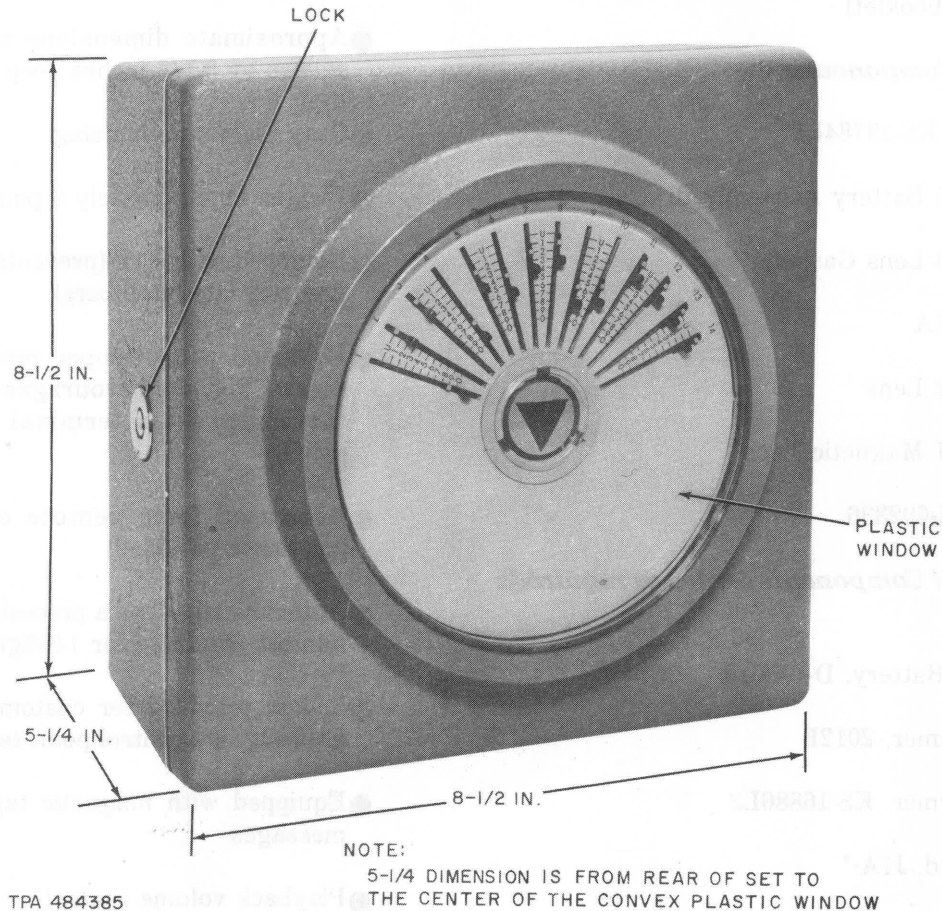

Fig. 1—1A Telephone Reporting Set
1.01 The 1A telephone reporting set (Fig. 1) is an instrument which is activated by a customer-provided contact closure and is programmed to dial a designated telephone number and report alarm conditions from a prerecorded magnetic tape.